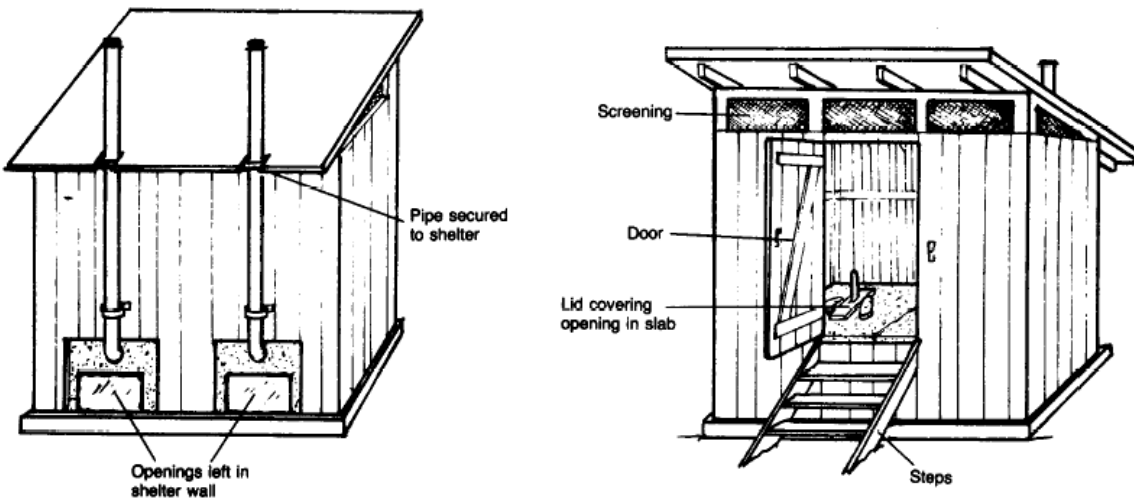

Figure 6. Completed Compost Toilet
15. Install the vent pipes and secure them to the rear wall or roof of the shelter. See figure 6.